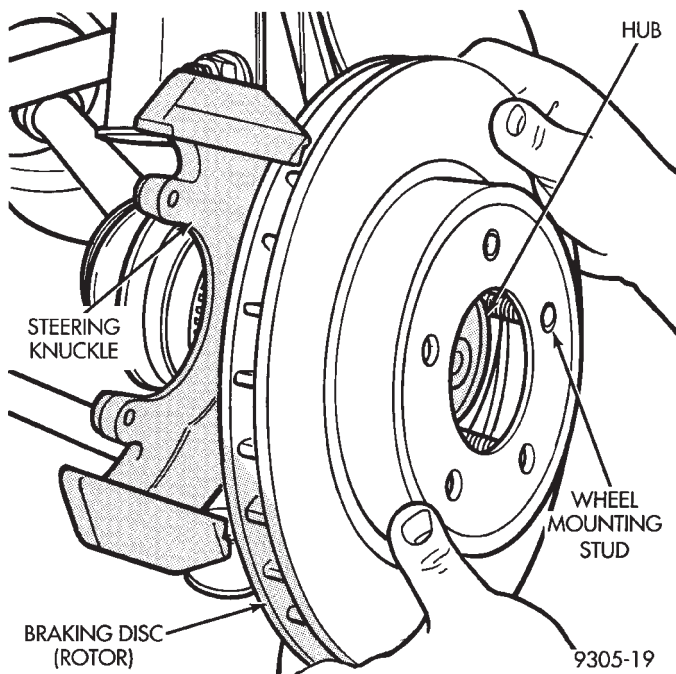

Fig. 11 Installing Braking Disc
(4) Install the braking disk back on the hub and bearing assembly (Fig. 11).